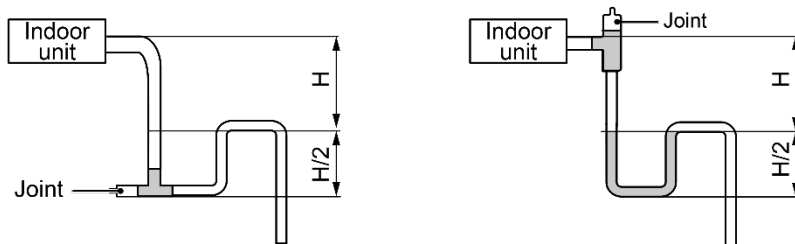

Fig.4.3.5
- (5) Install the trap as shown in following Fig.4.3.5.
(6) Install one trap for each unit.
(7) Convenience for cleaning trap in the future should be considered when installing it.